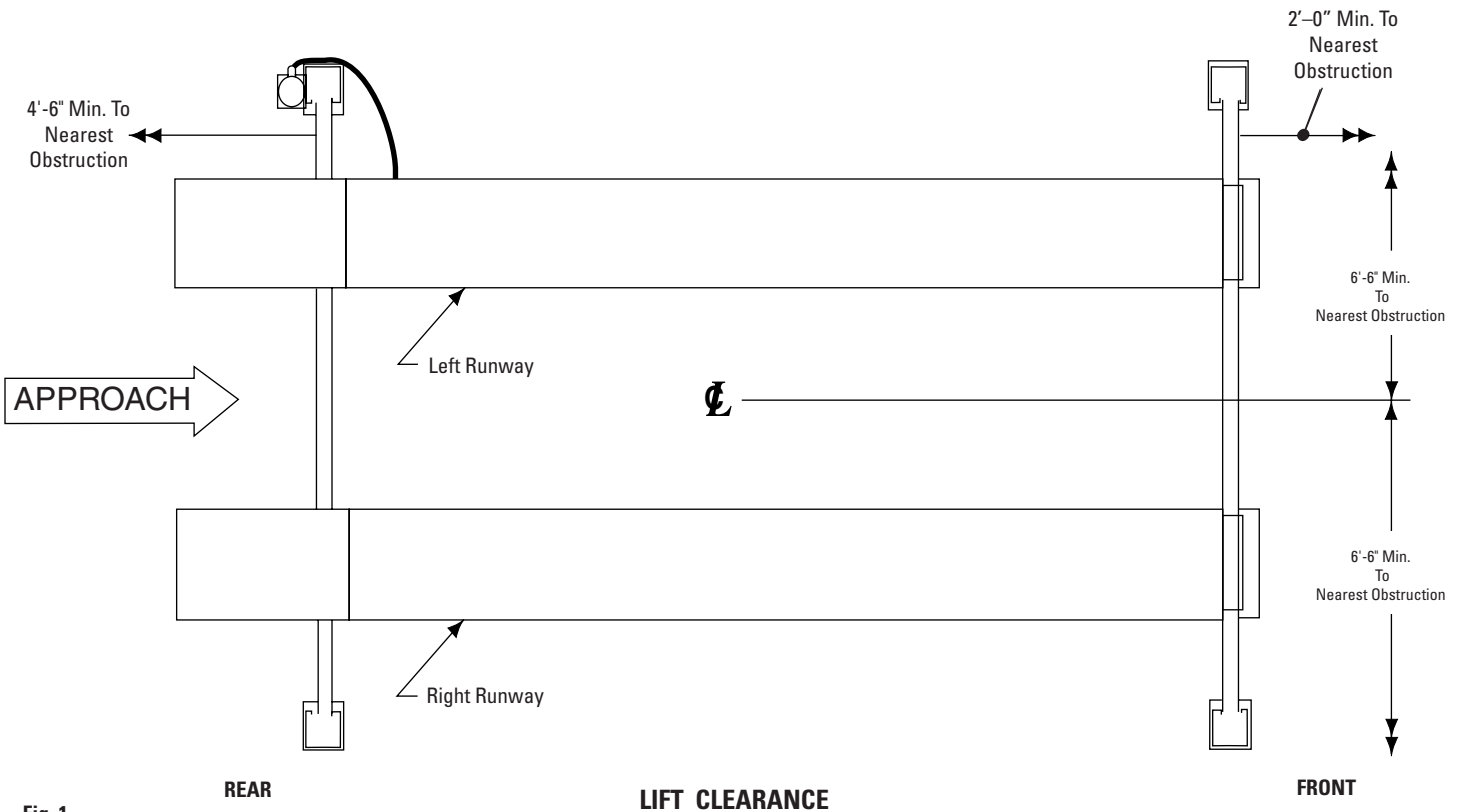

Fig. 1
- 1. Lift Location:** Use architects plan when available to locate lift. Fig. 1 shows dimensions of a typical bay layout. For power unit at right front, rotate lift 180°, leaving ramp/chocks and wheel stops in original position. Lift floor area should be level.
C. Position front and rear yokes at respective ends of runway, Fig. 1. The opening in the side of the yokes should be lined up with the cable sheaves in the runway ends. Feed cable ends through yoke openings, Fig. 4 and 9. Do not assemble sheaves in yoke ends at this time.
- A. Keep columns square to center line of lift. Check lift location in the bay, Fig. 1. Check dimensions side-to-side, front-to-rear, and diagonally. Diagonals must be equal to within 1/4", Fig. 11.